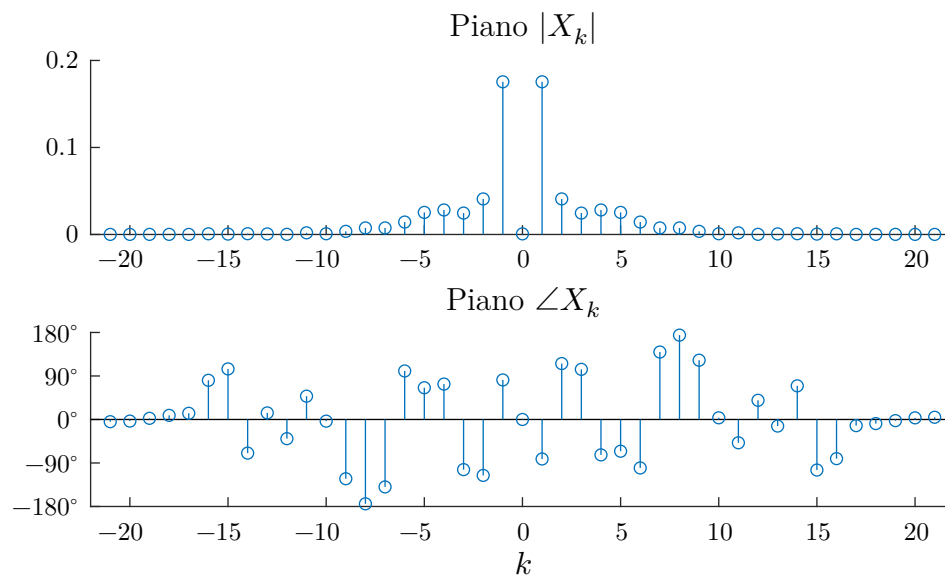

Figure 7.7: The magnitudes and phases (in degrees) of the FS coefficients, X_k , of the instrument slice derived from `piano.wav`.
Using your knowledge of MATLAB, update your `piano_slice.m` script to generate a figure containing two subplots depicting the magnitude and phase (in degrees) of the Fourier Series coefficients `X_ks`. Your figure should appear similar to Fig. 7.7. Include this figure in your report.
- Section 7.4.2: Update `piano_slice.m` to generate a figure containing two subplots depicting the magnitude and phase, similar to that depicted in Fig. 7.7. Include this figure in your report.